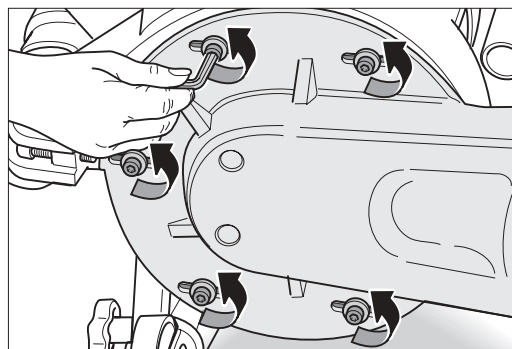

Fig. 64: Undoing the five fastening screws of the attachment.
- 5 Use the proper Allen key to undo all five screws with which the attachment is installed on the fan housing (Fig. 64).